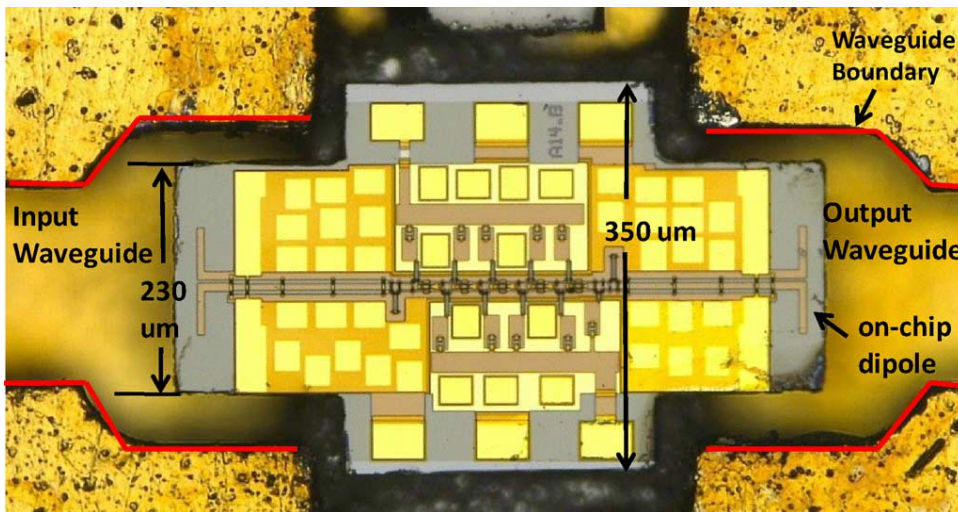

Fig. 1. Microphotograph of 670 GHz LNA in split block housing.
1. The improved instrument shown in Fig. 1 was constructed this morning and tried this evening. P is a brass pipe and W the platinum wire M the mouth piece and S the armature of the Receiving Instrument.